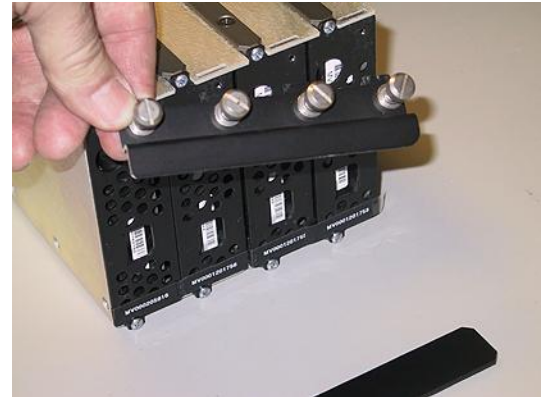

Figure 5-66
- 3) In order to replace an individual drive, turn each of the four knurled screws attached to the upper binding bar until they pop out and then remove the upper binding bar (Figure 5-66). Note that the upper binding bar has tabs that are inserted into slots of the main drive cage.